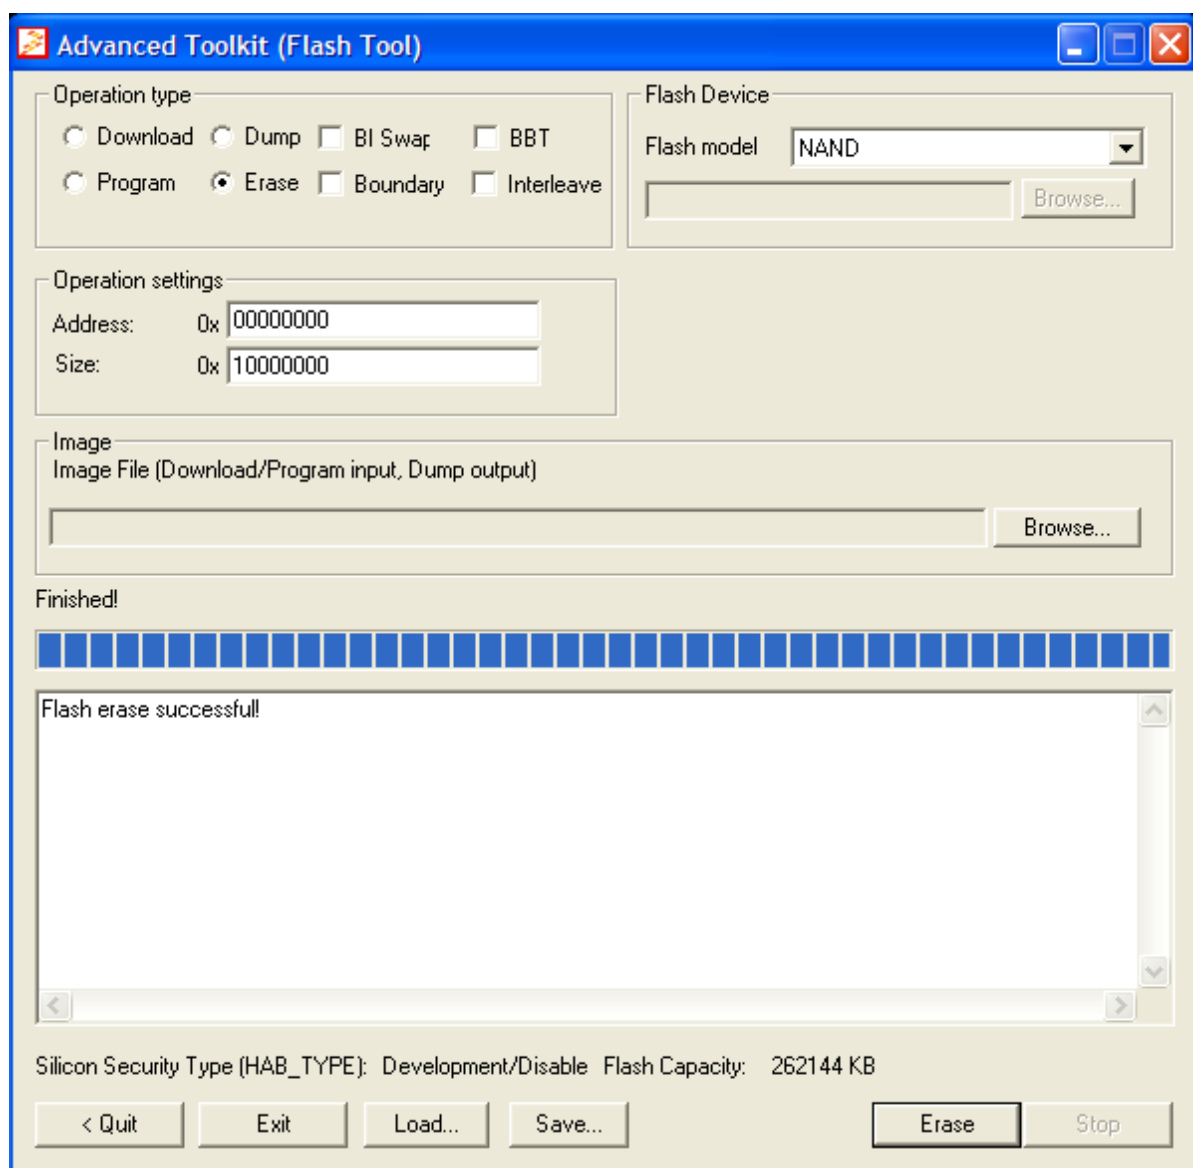

Figure 5-3 Erase Flash with ATK
7. Select the options shown in Figure 5-3, and then click **Erase** to erase the flash.